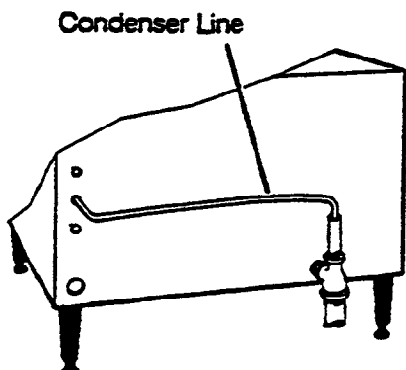

Figure 2-16. Condenser Line
1. Check that the condenser line from the steamer (Figure 2-16) is positioned in the top of the overflow tube. A clip secures the line to the tube.